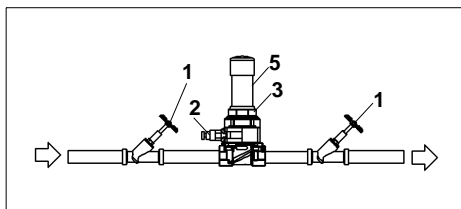

Fig. 8: Cartridge exchange IV
6. Screw in the union nut (3) clockwise and tighten it hand-tight (approx. 1 Nm) (see Fig. 8).
7. Close the discharge valve (2) clockwise all the way to the stop.
8. Open the shut-off valves (1) again.